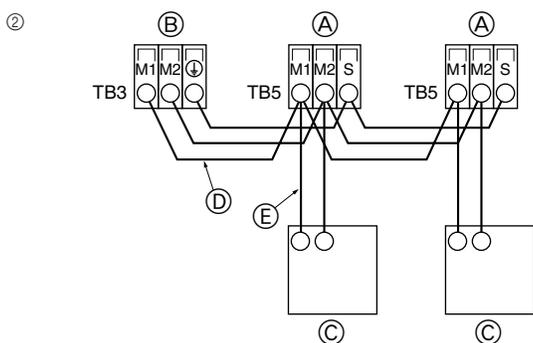

Fig. 6-3
② M-NET Remote controller (Fig. 6-3)